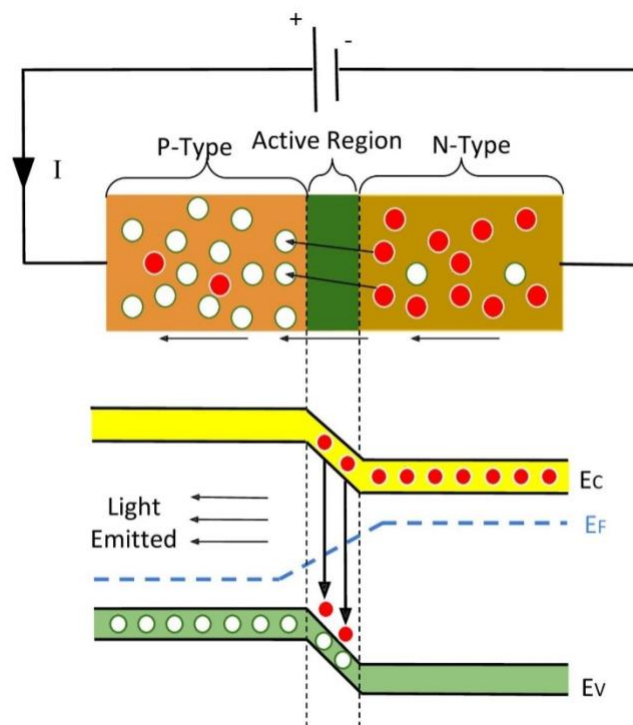

Figure 12d: LED working
- When a forward bias is applied to the LED, the energy levels of the p and n region become aligned thus allowing the electrons and holes to cross the energy gap as shown in *Figure 12d*.